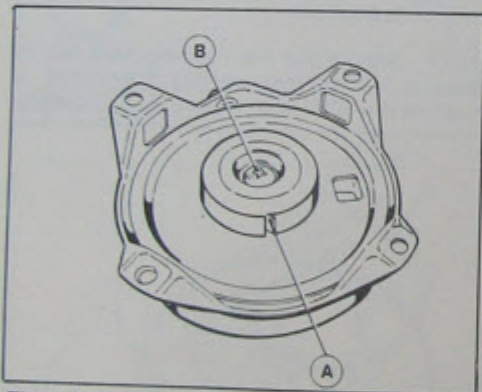

Fig. 14 Checking dog
- That dog (A) (Fig. 14) protrudes when the rope is slowly pulled. If the rope cannot be pulled, check the retainer hub B locking screw for correct tightening torque, which should be kgm 0.5 - 0.6 (45/55 inch. lbs.).